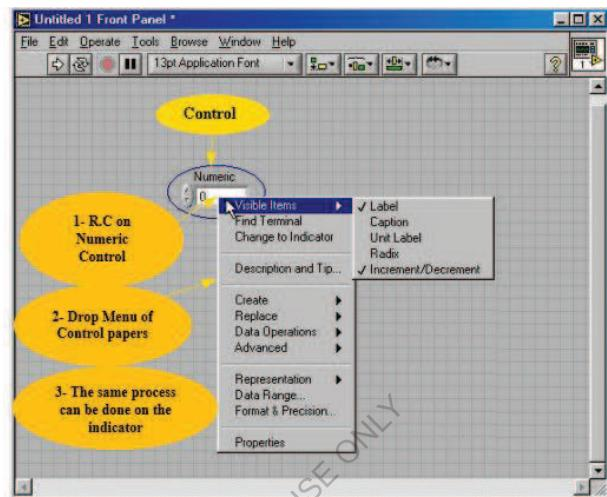

Figure 2.29: Change Properties of Control
**Indicators** and **Controls** properties can be changed by pressing the right click on the unit, whether Indicator or Control, a drop-down menu appears showing us what can be changed, as shown in figure 2.29.